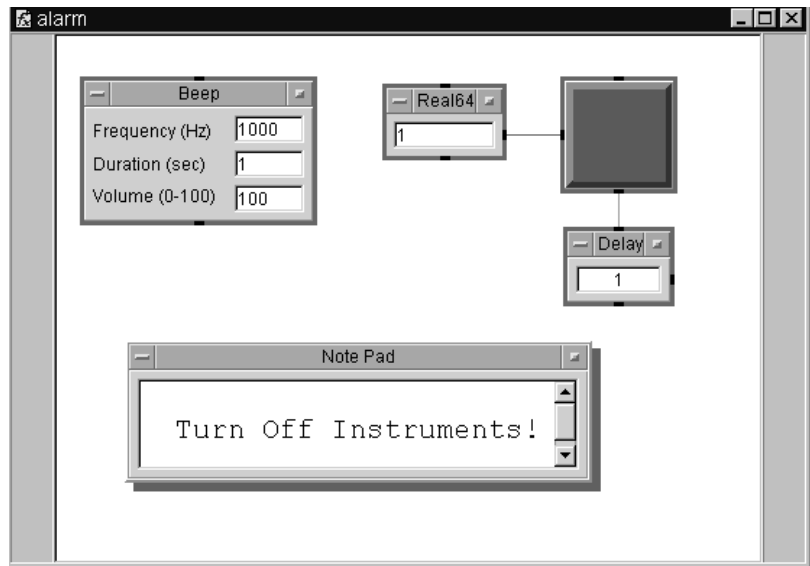

Figure 242 The UserFunction alarm (Detail View)
- 8 Go to the Main window. Choose **Device** ⇒ **Call**, choose Select Function from the Call object menu, and select alarm. Run the program to test it. The detail view of the UserFunction alarm should look like Figure 242.